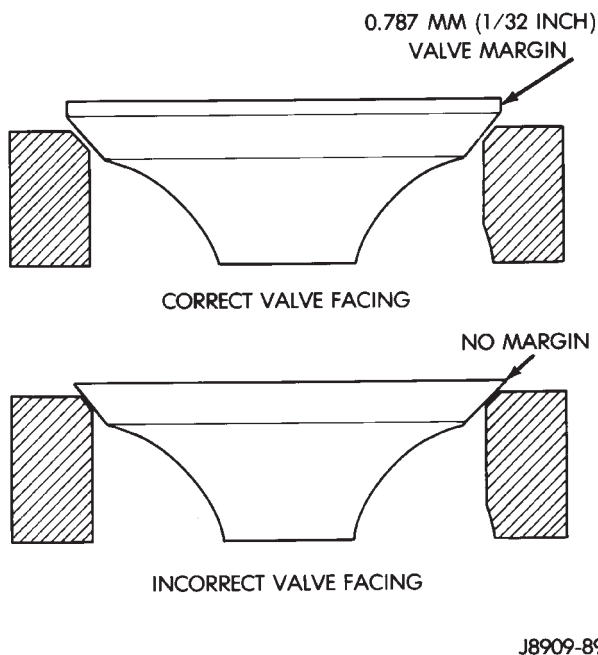

Fig. 8 Valve Facing Margin
(1) Use a valve refacing machine to reface the intake and exhaust valves to the specified angle.
(2) After refacing, a margin of at least 0.787 mm (0.031 inch) must remain (Fig. 8). If the margin is less than 0.787 mm (0.031 inch), the valve must be replaced.